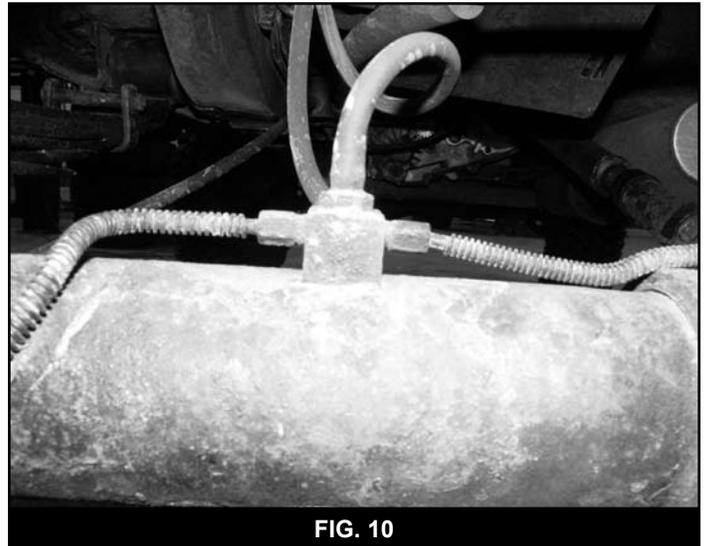

FIG. 10
65. Unbolt brake line junction block from axle. Retain bolts. (Fig 10)